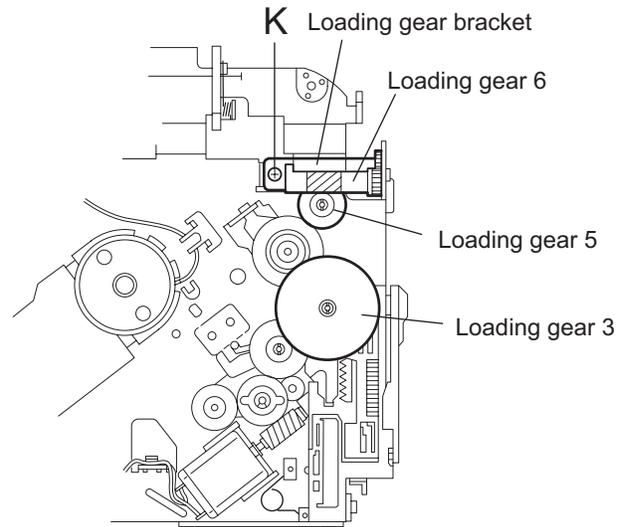
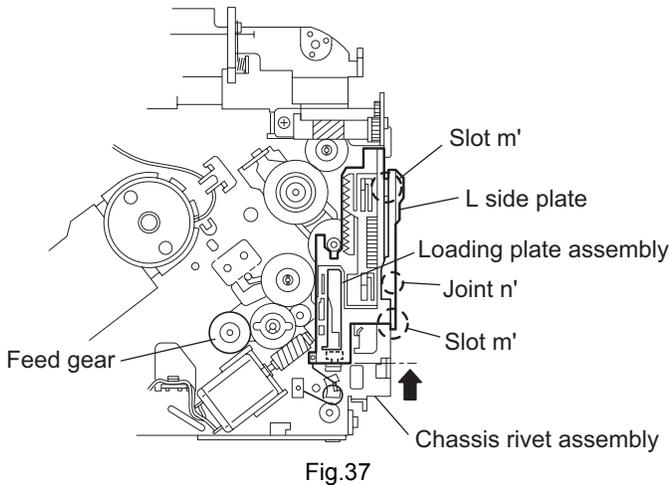
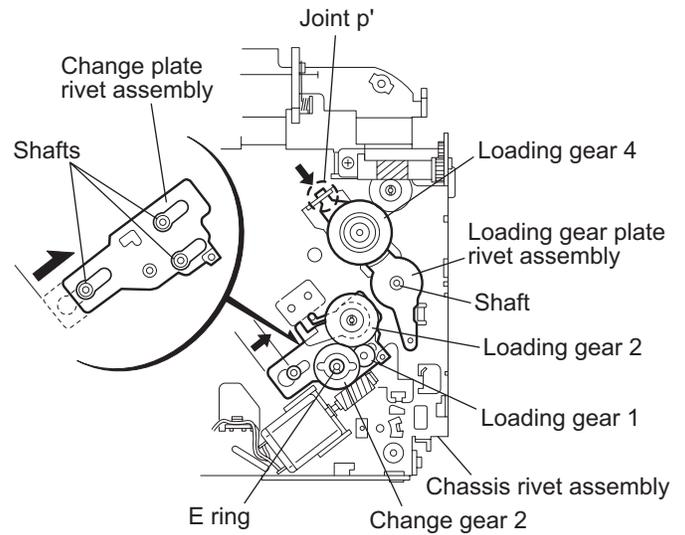

Fig.35
Fig.37
Fig.38
3.2.16 Removing the loading gear 5, 6 and 7 (See Figs.35 and 36)
(See Figs.37 to 40)
- Pull out the loading gear 3. (See Fig.35.)
- (1) Pull out the feed gear.
- (2) Move the loading plate assembly in the direction of the arrow to release the L side plate from the two slots m' of the chassis rivet assembly. (See Fig.37.)
- (3) Detach the loading plate assembly upward from the chassis rivet assembly while releasing the joint n'. Remove the slide hook and loading plate spring from the loading plate assembly.
- (4) Pull out the loading gear 2 and remove the change lock lever.
- (5) Remove the E ring and washer attaching the change gear 2.
- (6) The change gear 2, change gear spring and adjusting washer come off.
- (7) Remove the loading gear 1.
- (8) Move the change plate rivet assembly in the direction of the arrow to release from the three shafts of the chassis rivet assembly upward. (See Fig.38.)
- (9) Detach the loading gear plate rivet assembly from the shaft of the chassis rivet assembly upward while releasing the joint p'. (See Figs.38 and 40.)
- (10) Pull out the loading gear 4.